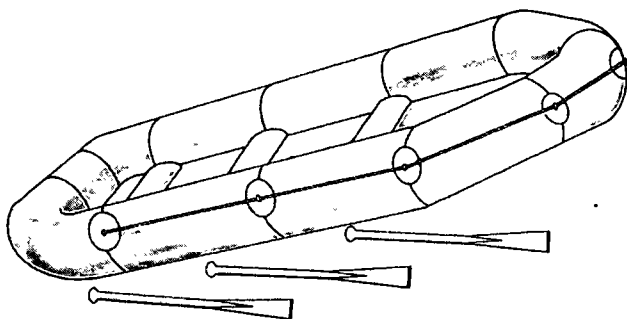

Figure 227. Three-man pneumatic reconnaissance boat.
a. Use. The 3-man pneumatic reconnaissance boat (fig. 227) provides a lightweight portable means of transport for all reconnaissance activities where crossing of a water obstacle is necessary.